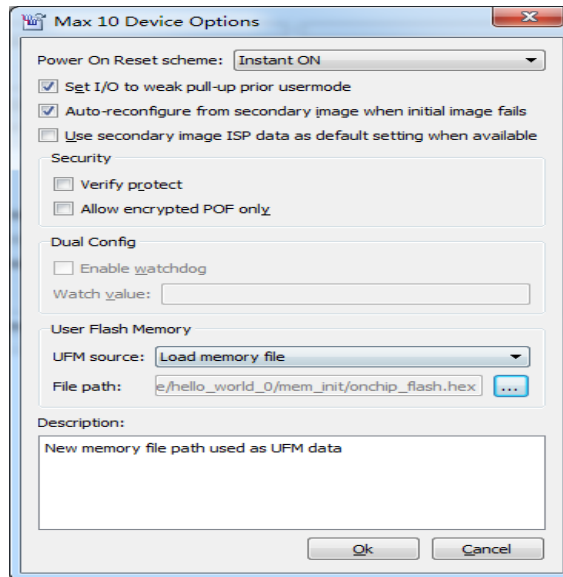

Figure 8-13 Add Hex Data Window
- Click the Options/Boot info... button. Choose the UFM source as the load memory file and click browse button to open the onchip flash hex file as shown in **Figure 8-13**. Press OK button